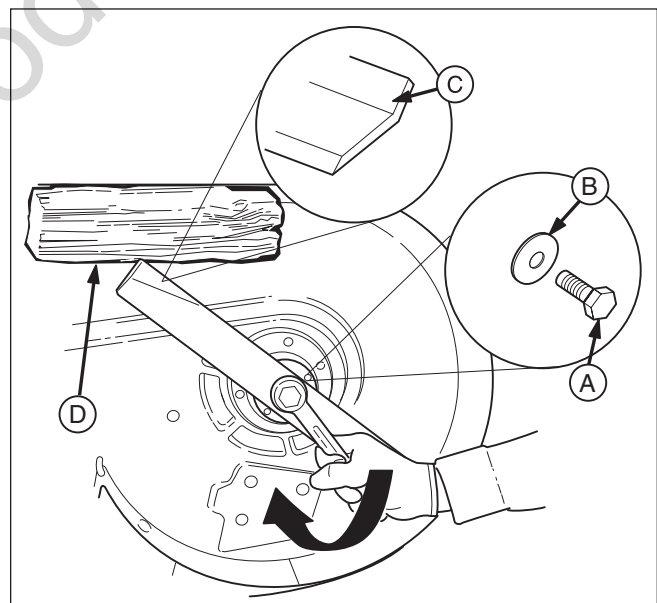

Figure 28. Tightening the Mower Blade for Installation
1. Reinstall each mower blade with the air lifts pointing up towards the mower deck as shown in Figure 28. Secure with the mower blade mounting bolt and flat washer (A & B, Figure 28).